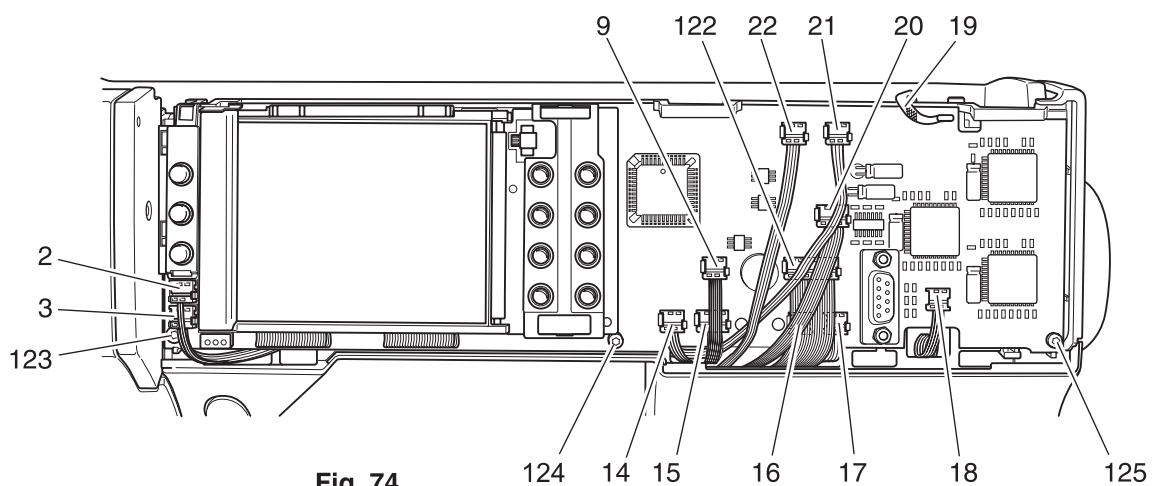

Fig. 74
- Remove connection plug 2 and 3 from the circuit board (fig. 74).
- Secure the circuit board with screws 123, 124 and 125 (fig. 74).